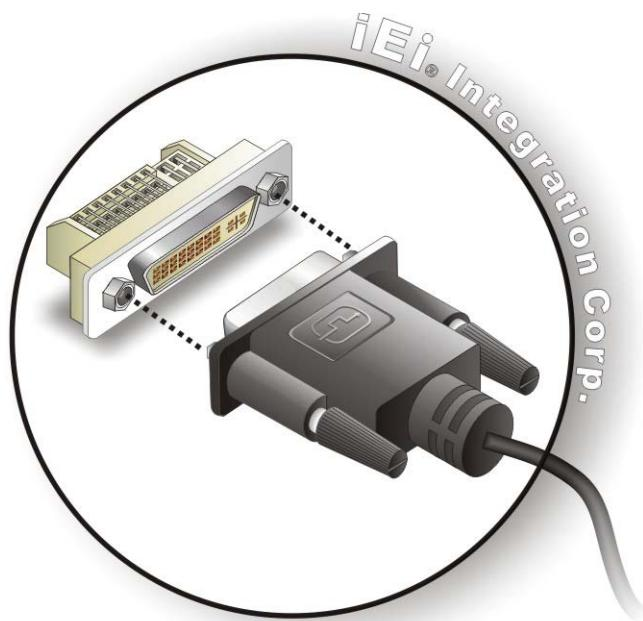

Figure 3-17: DVI Connector
- Step 3:** **Insert the DVI connector.** Once the connectors are properly aligned with the male connector, insert the male connector from the digital display device into the female connector on the TANK-801. See **Figure 3-17**.